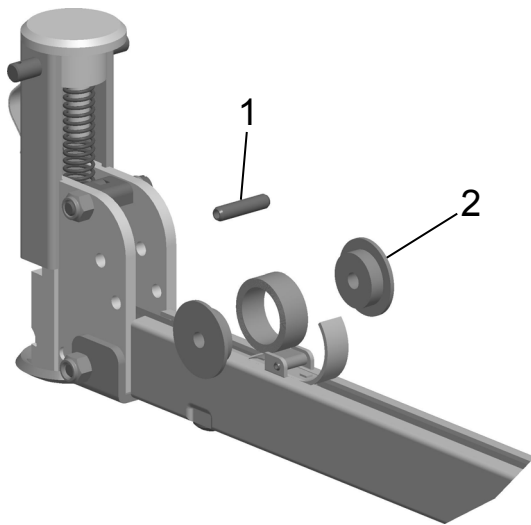

Fig. 17
2. Remove the roll pin (Fig. 17/1) with a punch with size 4,9 mm.